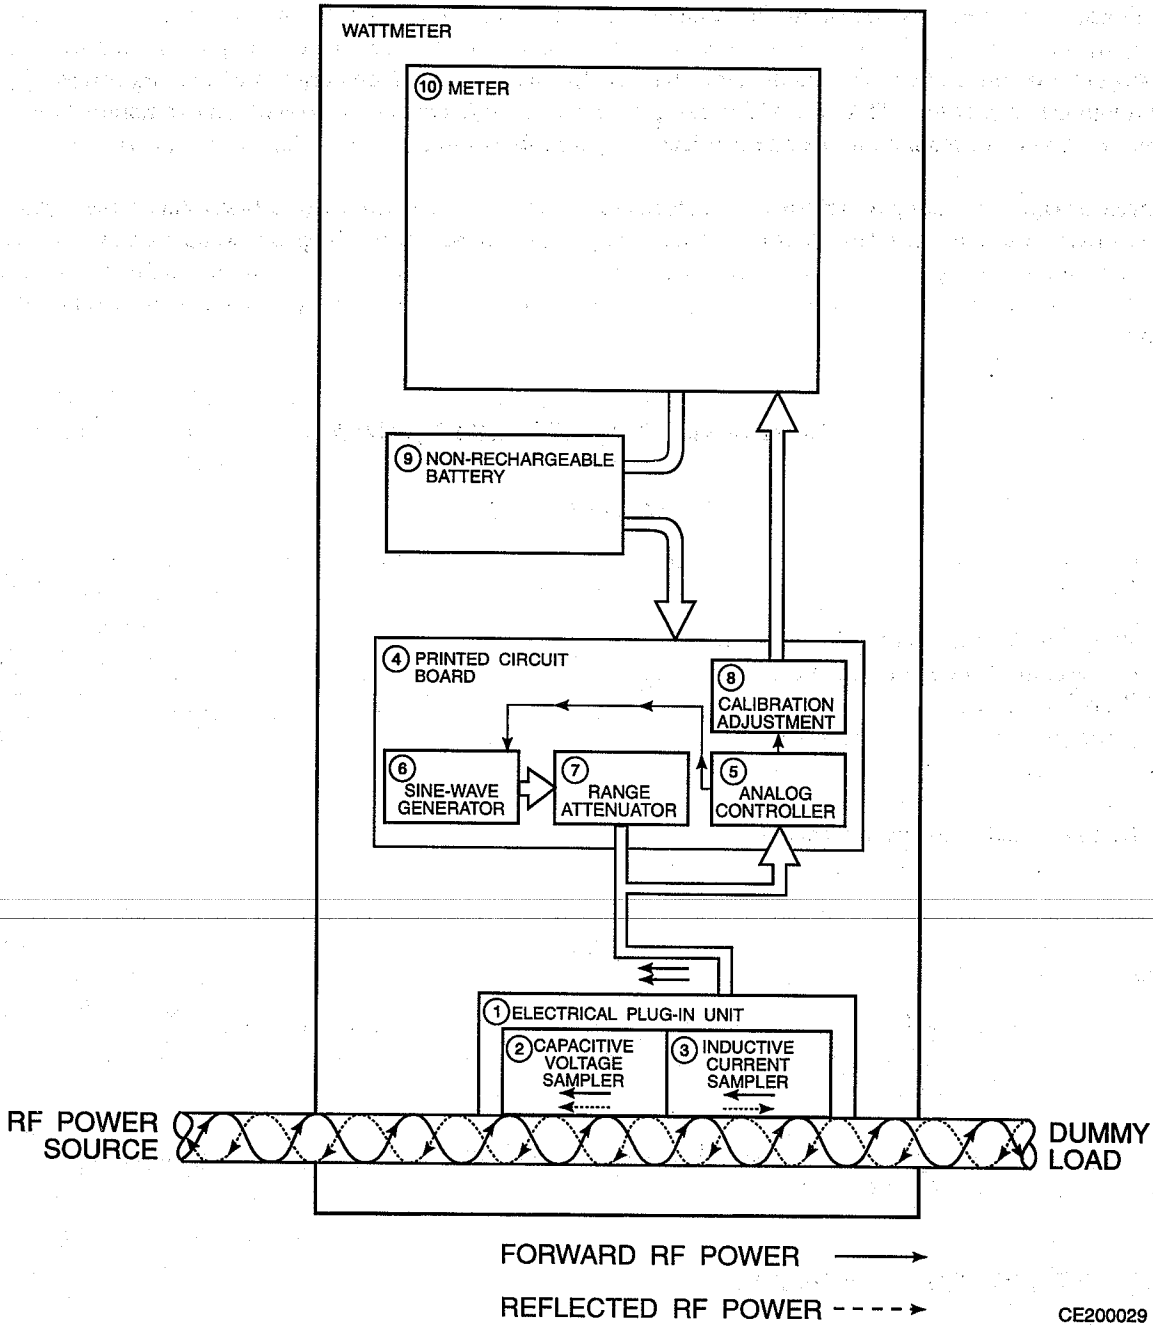

Figure 5-2. Wattmeter Functional Block Diagram
A functional block diagram of the wattmeter is shown in Figure 5-2. The electrical plug-in unit (1) samples the RF voltage and current signals traveling through the coaxial line. The capacitive voltage sampler (2) produces a voltage (V_{Cf}) from the flow in the forward RF voltage (from source to load) and also a voltage (V_{Cr}) from the flow of any reflected RF voltage (from load to source). The forward and reflected samples add together to form the total capacitive voltage signal ($V_{Cf} + V_{Cr} = V_{Ctotal}$). In the illustration, signals sampled from the forward RF power are represented by solid arrows while signals sampled from the reflected RF power are represented by dashed arrows. The inductive current sampler (3) produces a voltage (V_{Lf}) from forward flow of RF current and a voltage (V_{Lr}) from any reflected RF current. The voltage generated from the reflected RF current is 180° out of phase with the voltage generated from the forward RF current and will subtract to form the total inductive voltage signal ($V_{Lf} - V_{Lr} = V_{Ltotal}$). The element is designed so that the voltages generated by the capacitive voltage sampler are the same amplitude as the voltages generated from the inductive current sampler ($V_{Cf} = V_{Lf}$ and $V_{Cr} = V_{Lr}$). Combining the output of both samplers causes the signals from power flow to add in one direction and the opposite signals to subtract. For example, during forward power measurements the samples add in the following way; $V_{Cf} + V_{Cr} + V_{Lf} - V_{Lr}$ which is equal to $(V_{Cf} + V_{Lf})$. If the electrical plug-in unit is turned in the reflected direction, forward signals from the capacitive voltage sampler and the inductive current sampler will cancel while the reflected signals will be combined. This is how the electrical plug-in unit obtains its highly directional characteristics.